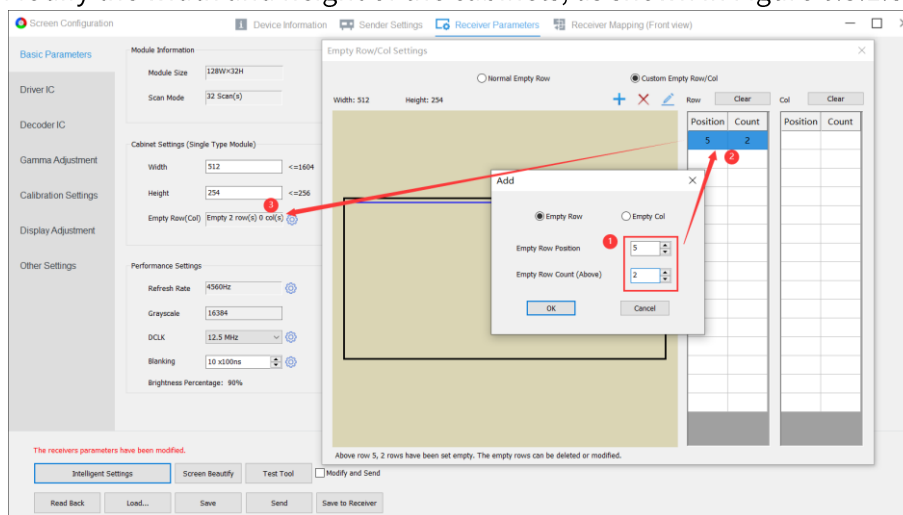

Fig 6.3.1.8 Empty row/col settings
Step 2: Modify the width and height of the cabinets, as shown in Figure 6.3.1.8.